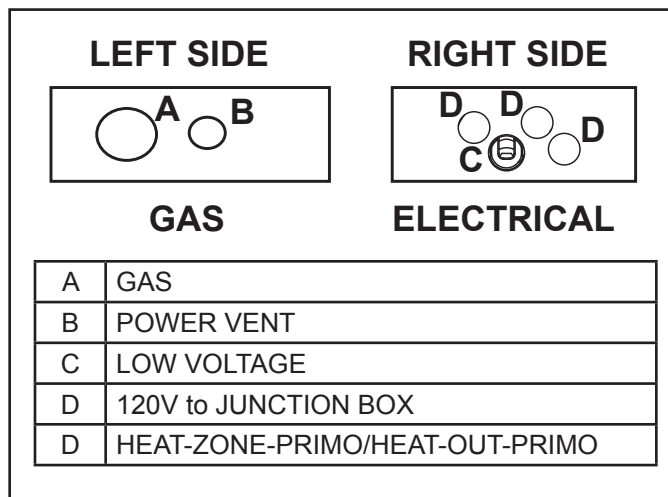

Figure 8.1 Access Plates
- See Figures 8.1, 9.7 and 9.8 for routing electrical power from the appliance to the power vent (PVI-SLP or PVLPSLP), wall switch and PowerFlow™ Heat Management System.
2. Route the wire through the access plate using a strain relief and down through the wire slot located behind the junction box. See Figure 8.1 and 8.3.